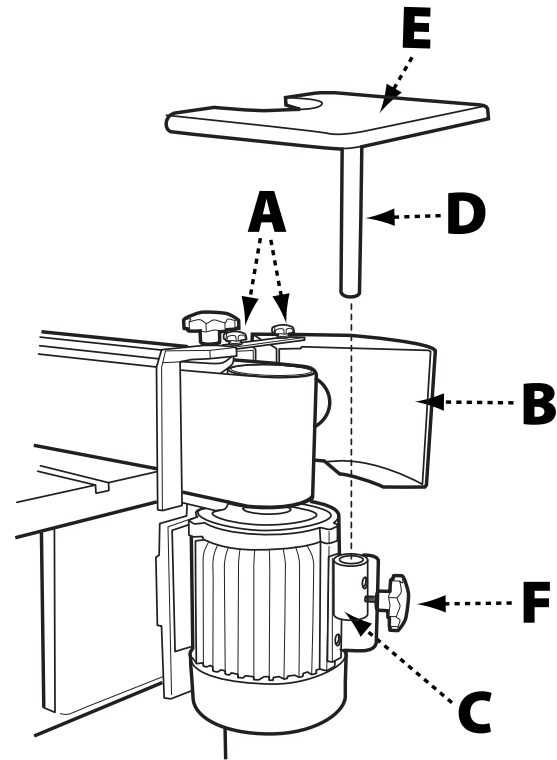

FIGURE 7
- 10 24 x 3/4 Socket Head Cap Screws (2)
1. Loosen the lock knobs (A) on the drum guard (B) and rotate the drum guard back and out of the way. Retighten the lock knobs.
2. Attach the mounting bracket (C) to the side of the motor housing and secure using the two 10 24 x 3/4 socket head cap screws, as shown in Figure 7. The longer end of the mounted bracket should be at the bottom.
3. Insert the mounting pole (D) into the contour sanding table (E) and secure with 12mm hex cap bolt and lock nut.
5. Secure the mounting pole/table assembly to the mounting bracket using the (20mm) lock knob (F).